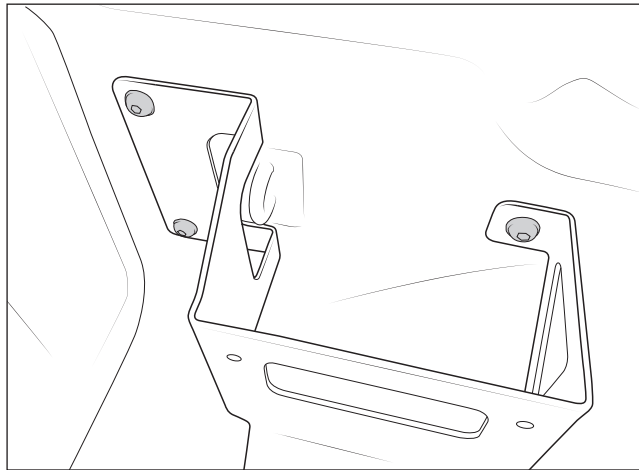

Figure 9
6. Insert the three M10 x 20 bolts through the Bed Floor Bracket and bed side (fig. 9). Secure with M10 flange nuts accessed through the wheel well and underneath the bed (fig. 10). NOTE: Partial removal of the wheel liner required. It will be helpful to have a partner hold the bolts in place while threading on the flange nuts.